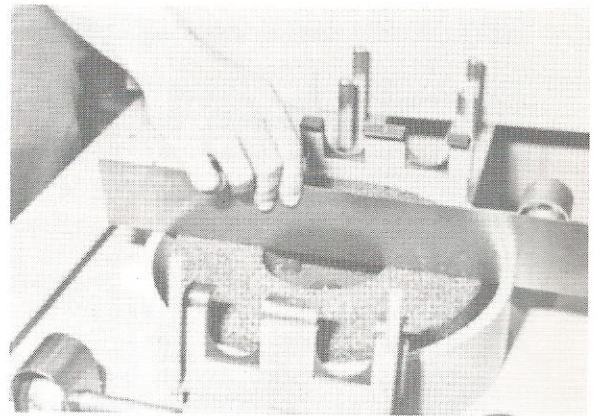

fig. 3
1. Check proper position of the grinding wheel by placing a straight edge across the grinding wheel surface. The grinding surface should be 1/16" to 1/8" above the rim of the grinding wheel guard ring (see fig. 3). For correction, see "E. MAINTENANCE, paragraph b".
The position of the grinding wheel in relation to the tool transport is adjustable. The grinding surface should be approximately  $1/16"$  to  $1/8"$  above the rim of the wheel guard. For measurement and adjustment, place a straight edge across the face of the grinding wheel (see fig. 3). Loosen the four bolts of the grinder motor mount and turn adjusting screws until the desired new position of the grinding wheel is reached (see fig. 19). Then tighten up the four motor mount bolts again.